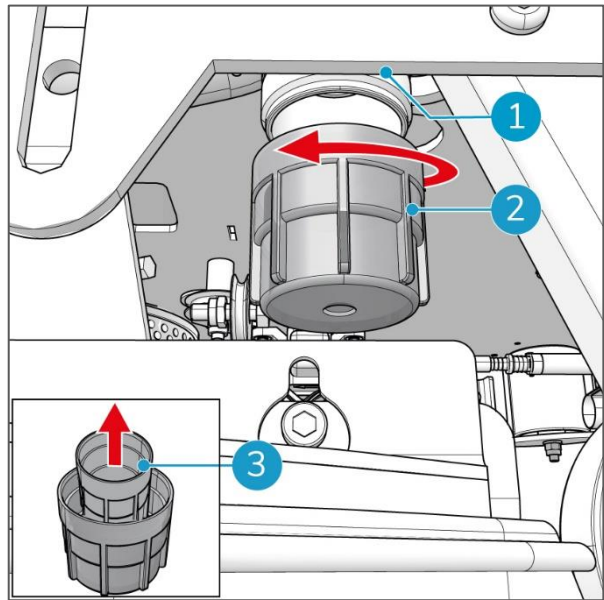

Figure 67
2. The water filter is positioned under the right front side of the i-drive® (Figure 67, pos 1).
3. Turn the cover of the water filter (Figure 67, pos 2) anti-clockwise to remove it. The water filter has an integrated valve that avoids water running when the filter is open.
4. Remove the water filter (Figure 67, pos 3) from the cover.